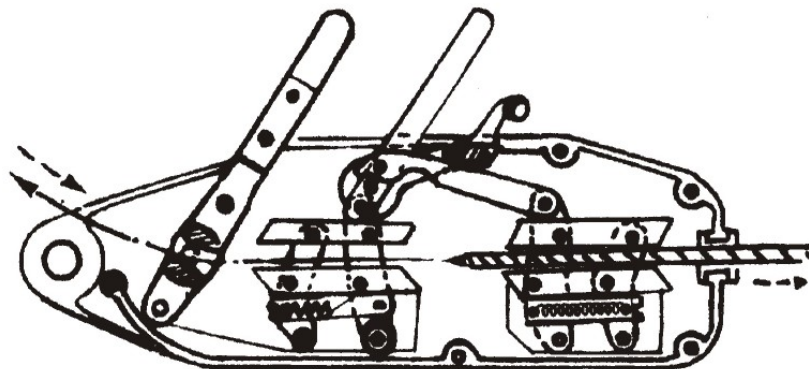

Fig1. Rope reeving and Rope receiving:
1. Reeve: (Fig.1) With the rope head downward and pressing the hoister, push the relaxed handle. When hearing the sound click, pliers mouth has been opened. Then you can reeve the wire rope from the back hole to the hoister. After the rope is out, the rope can be pulled to the length that you need and then push the relaxed handle back to clamp the rope tightly. When the forward handle or the backward handle pulled, the wire rope will automatically go into or come out of the hoister. Thus, the machine is in the normal state and it is teady to be used.
(4.)Draw the rope out(Fig.1): Having finished the work, the pliers mouth will be opened as soon as the relaxing handle is pushed and then the wire rope can be drawn out of the end of the hoister. Clean the dirt on the rope, wind it into the steel cross in good order to be ready to use next time.